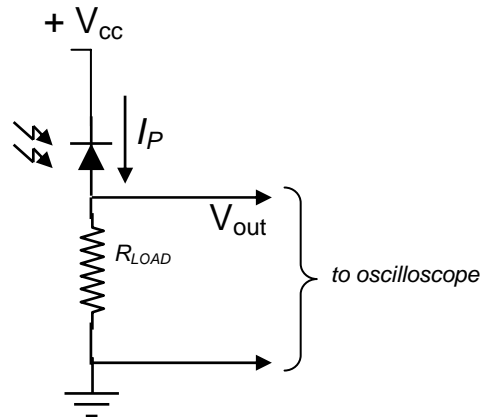

Figure 10.11: Photodiode in reverse-bias configuration with resistive load.
The PN junction capacitance of the photodiode can be reduced significantly by using a reverse-bias voltage on the photodiode, as shown in the circuit diagram on the right (figure 10.11). Since the capacitance drops, so does the time response (still $\tau = RC$) of the photodiode. In practice, the fastest photodiode have very small detection areas and are
3. In the same manner as part 2, construct the circuit of figure 10.11 such that the current-to-voltage conversion is 10 mV/ μ A and the bias voltage is + 15 V. Measure the rise time and fall time of the photo-current signal. Estimate the capacitance of the photodiode.